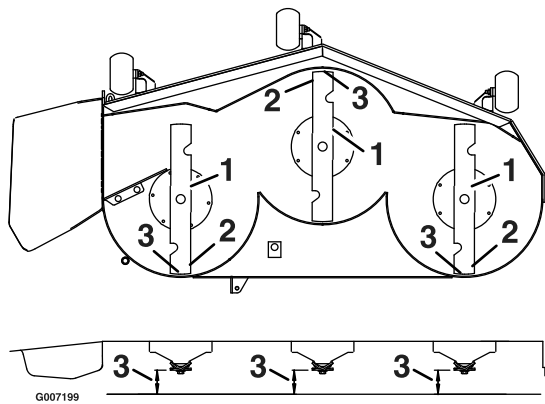

Figure 59
3. Carefully rotate the blades so they are facing front to rear (Figure 59).
4. Measure from the tip of the front blade to the flat surface and the tip of the rear blade to the flat surface (Figure 59). If the front blade tip is not 1/16-5/16 inch (1.6-7.9 mm) lower than the rear blade tip, continue to the Leveling the Mower Deck procedure.